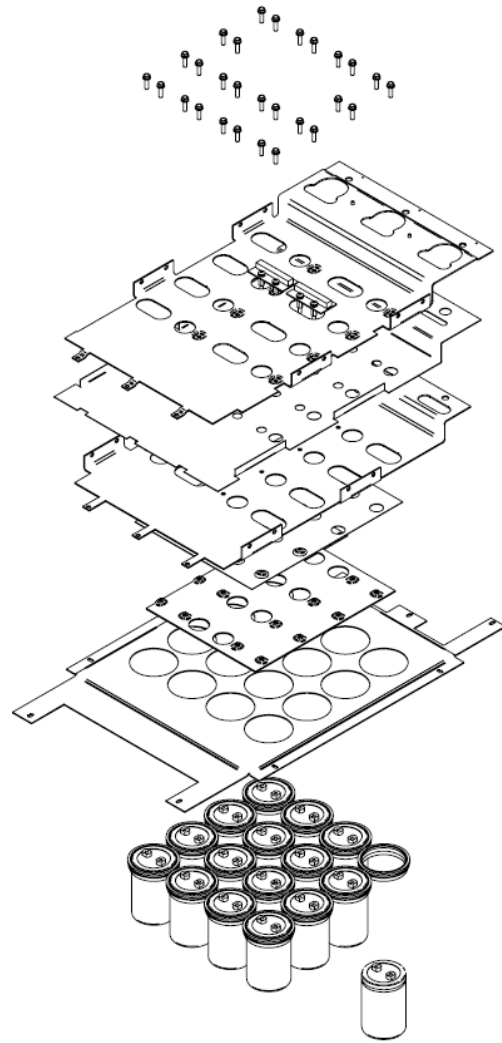

Figure 6.13. Disassembly of the Bus capacitors.
Follow figure 6.13 (a), figure 6.13 (b), figure 6.13 (c) and figure 6.13 (d) while reading these instructions:
Follow *figure 6.13* while reading these instructions:
- 2) Insert the middle Bus (*figure 6.13*).
- 5) Insert the Bus (-) (*figure 6.13*).
- 8) Insert the Bus (+) (*figure 6.13*).